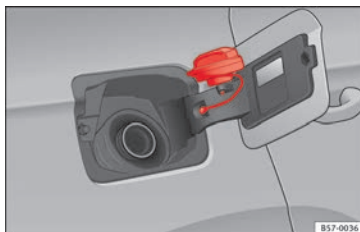

Fig. 60 Fuel tank flap with tank cap attached.
- Place it in the space on the hinge of the open flap »» **Fig. 60**.